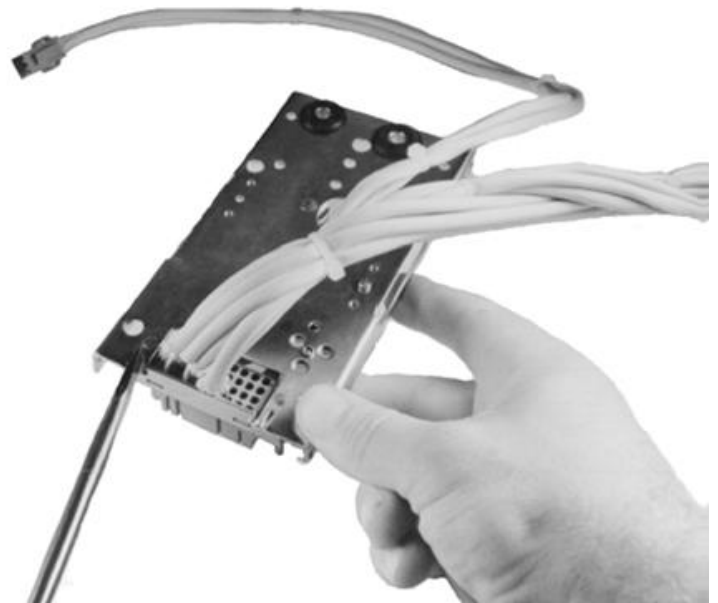

Fig. 1e. Programmer Bracket Locking Tabs
While holding the adapter bracket and connector assembly firmly in place against the programmer bracket, bend the two (2) locking tabs on the programmer bracket into the mating notches on the adapter bracket using a screwdriver (Fig. 1e).